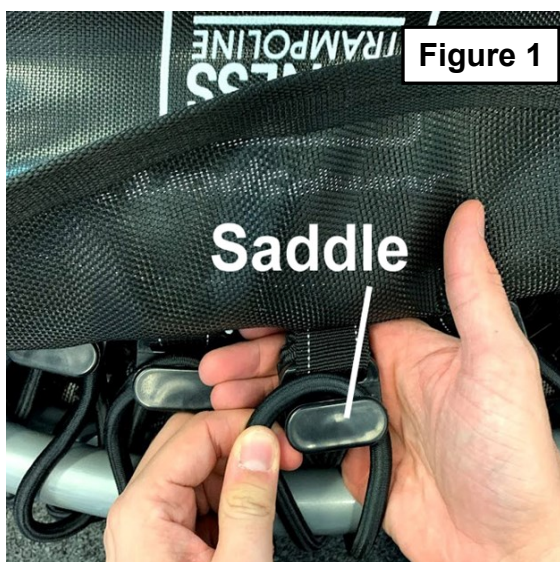

Figure 2
Step 2: Make sure both hinge wire locks are in the fully open/unlocked position [Figure 2] if wire locks get pinched between the hinges, (see Figure 3 above), the frame can suddenly snap closed, - serious injury can occur.